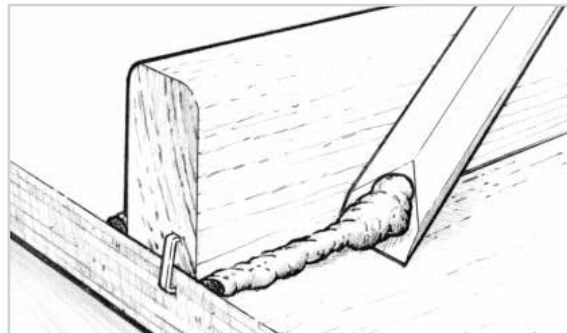

Figure 16-11 Remove excess epoxy before it begins to gel. A sharpened mixing stick makes an excellent cleanup tool.
4. Remove or shape excess adhesive that squeezes out of the joint as soon as the joint is secured with clamps. A wooden mixing stick with one end sanded to a chisel edge is an ideal tool for removing the excess (Figure 16-11).